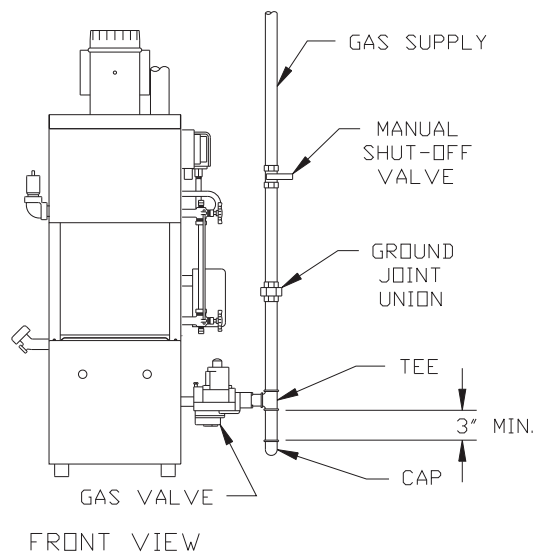

FIGURE 9.1: GAS CONNECTION TO BOILER
- c) Install sediment trap, ground-joint union and manual shut-off valve upstream of boiler gas control valve. See Figure 9.1.